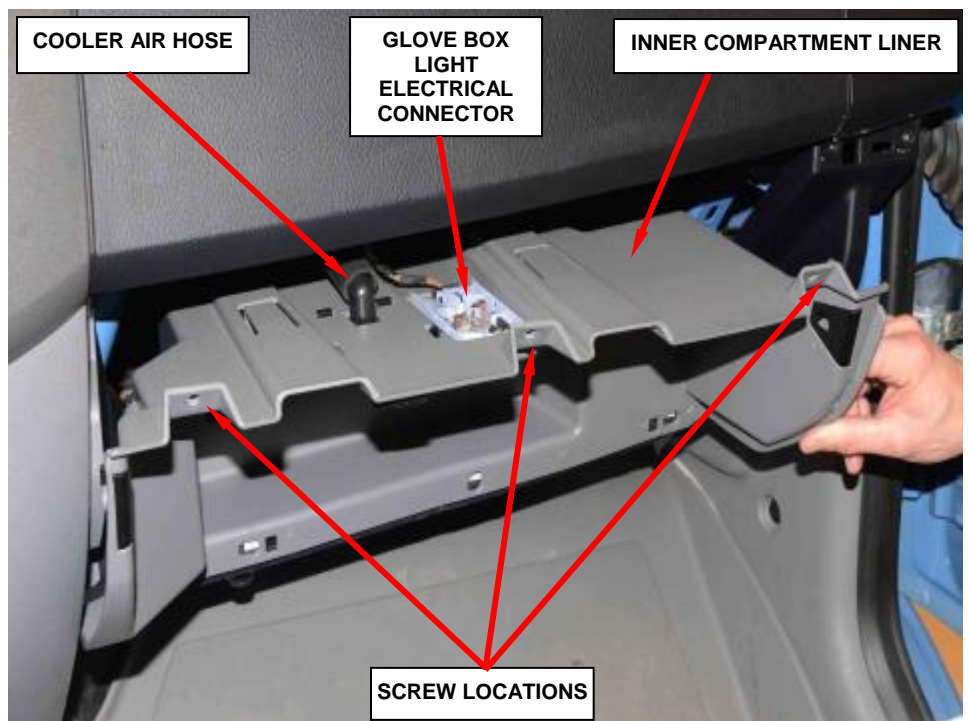

Figure 146 – Inner Compartment Liner
5. Remove and save the three inner compartment liner screws and remove the inner compartment liner (Figure 146).
6. Disconnect the glove box light electrical connector and remove the cooler air hose (Figure 146).